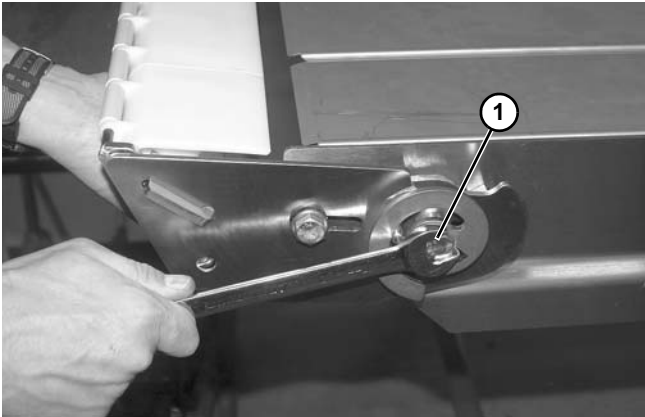

Figure 140
3. Loosen headplate adjustment screw (Figure 140, item 1) on each side.